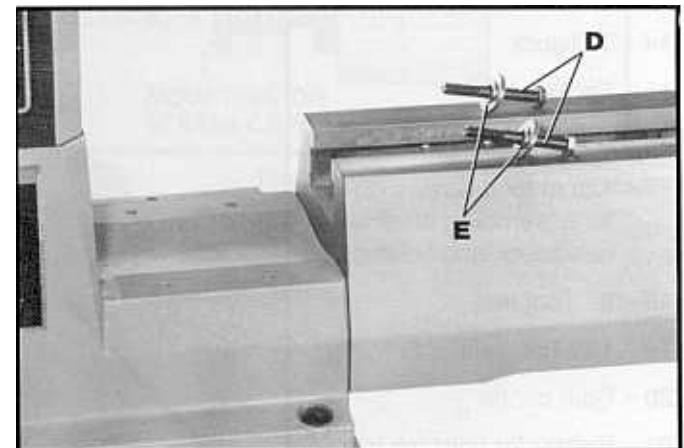

Fig. 7
3. Locate two of the 80mm long hex head screws (D) Fig. 7, and special centering washers (E). Place washers (E) on screws (D) with hub of washers (E) facing out as shown.